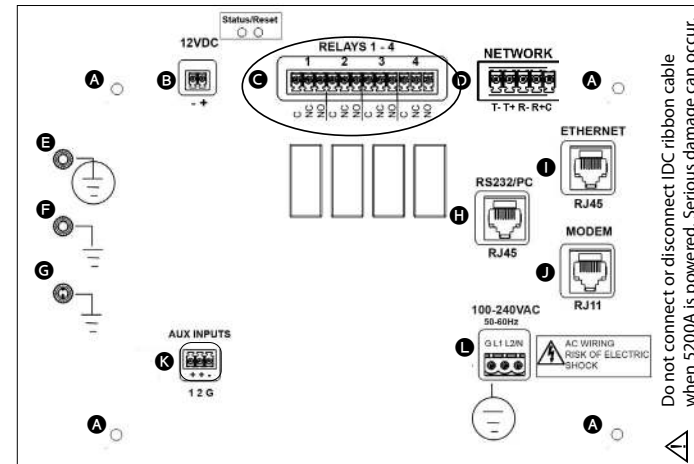

Figure 3.19
The 5200A has four (4) on board non-fused relays rated at 240VAC@5AMPs (110VAC@10AMPs) switching capacity. Relays energize and de-energize peripheral control, alarm, and/or timer devices. Terminate relay device wires to Normally Open (NO), Normally Closed (NC), and Common (C) sockets as required for the application. (See 5200A I/O board wiring diagram on inside of front panel for identification of relay number and pin position.) Relays 1-4 are terminated at location **C** on I/O board - figure 3.19.